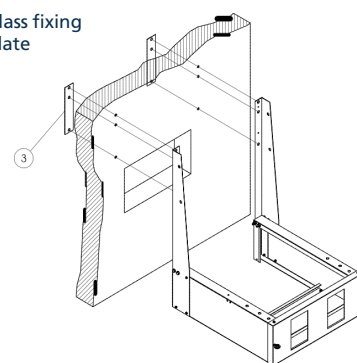

Figure 16.
To fit the sides to the brackets, fit the "U" shaped support by clicking it into the slots (A), so that the slits line up (B) as shown in Figure 16.